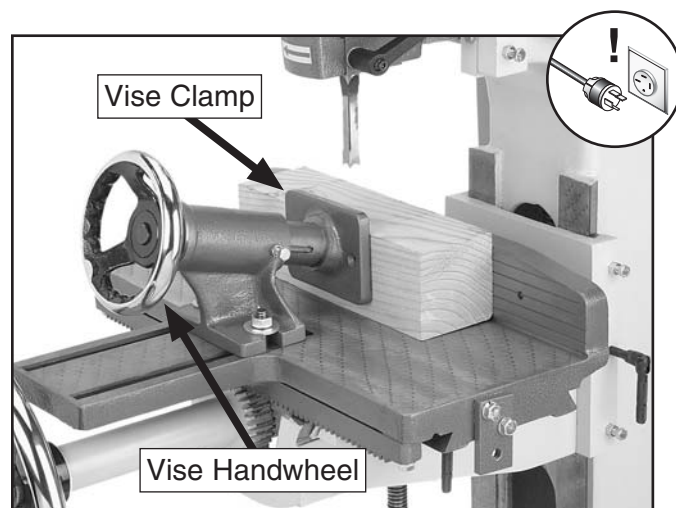

Figure 21. Workpiece clamped against the fence.
2. Place the workpiece flat on the table and against the fence, push the vise clamp assembly against the workpiece, then rotate the handwheel to firmly secure it with the clamp, as shown in **Figure 21**.